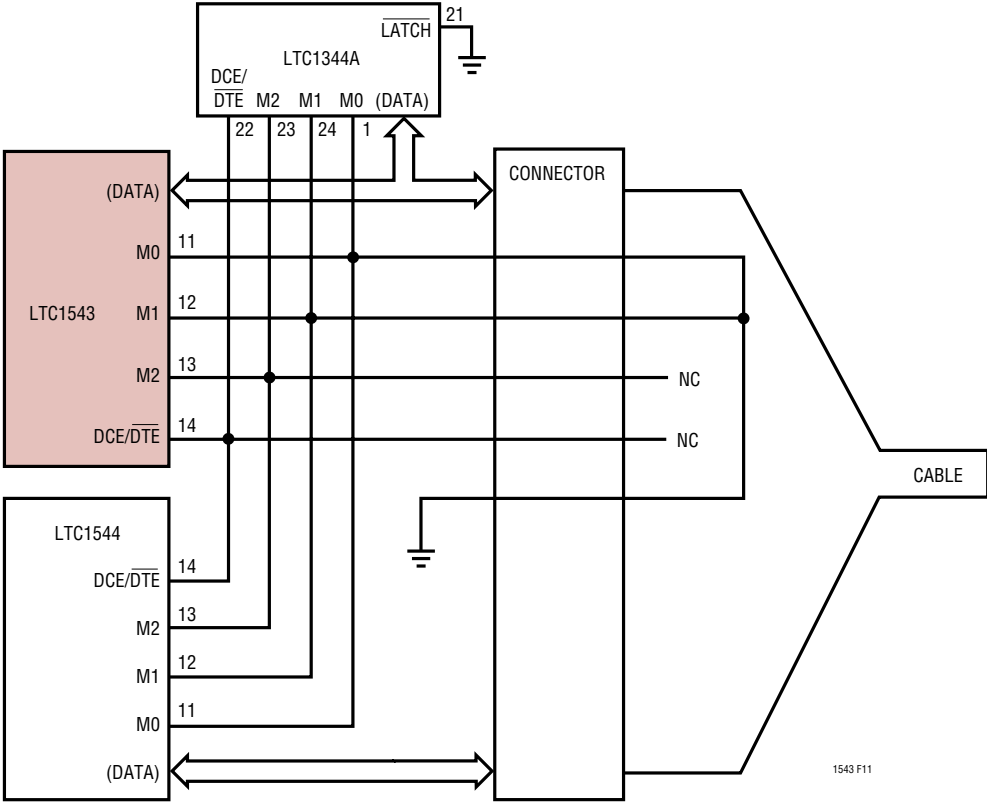

Figure 11. Single Port DCE V.35 Mode Selection in the Cable
The interface protocol may be selected simply by plugging the appropriate interface cable into the connector. The mode pins are routed to the connector and are left unconnected (1) or wired to ground (0) in the cable as shown in Figure 11.